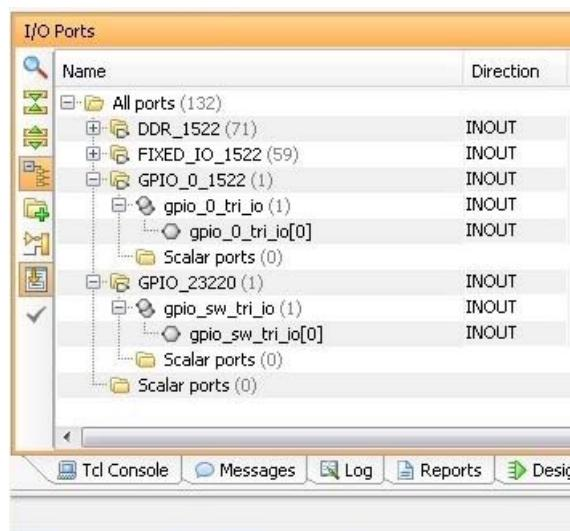

Figure 3-8: I/O Ports Site Map
27. Under the I/O Ports tab view at the bottom of the Vivado window (Figure 3-8), expand the **GPIO\_0\_1522** and **GPIO\_23220** ports to check the site (pin) map.